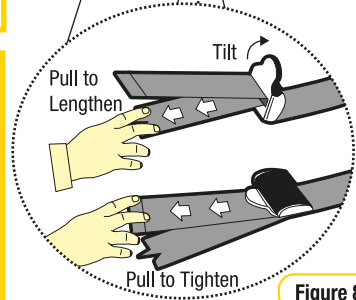

Figure 8
Step 6: Pull to tighten to remove all the slack, from the upper anchorage strap. Do not overtighten as this could cause the restraint to lift off the vehicle seat (refer to Figure 8).